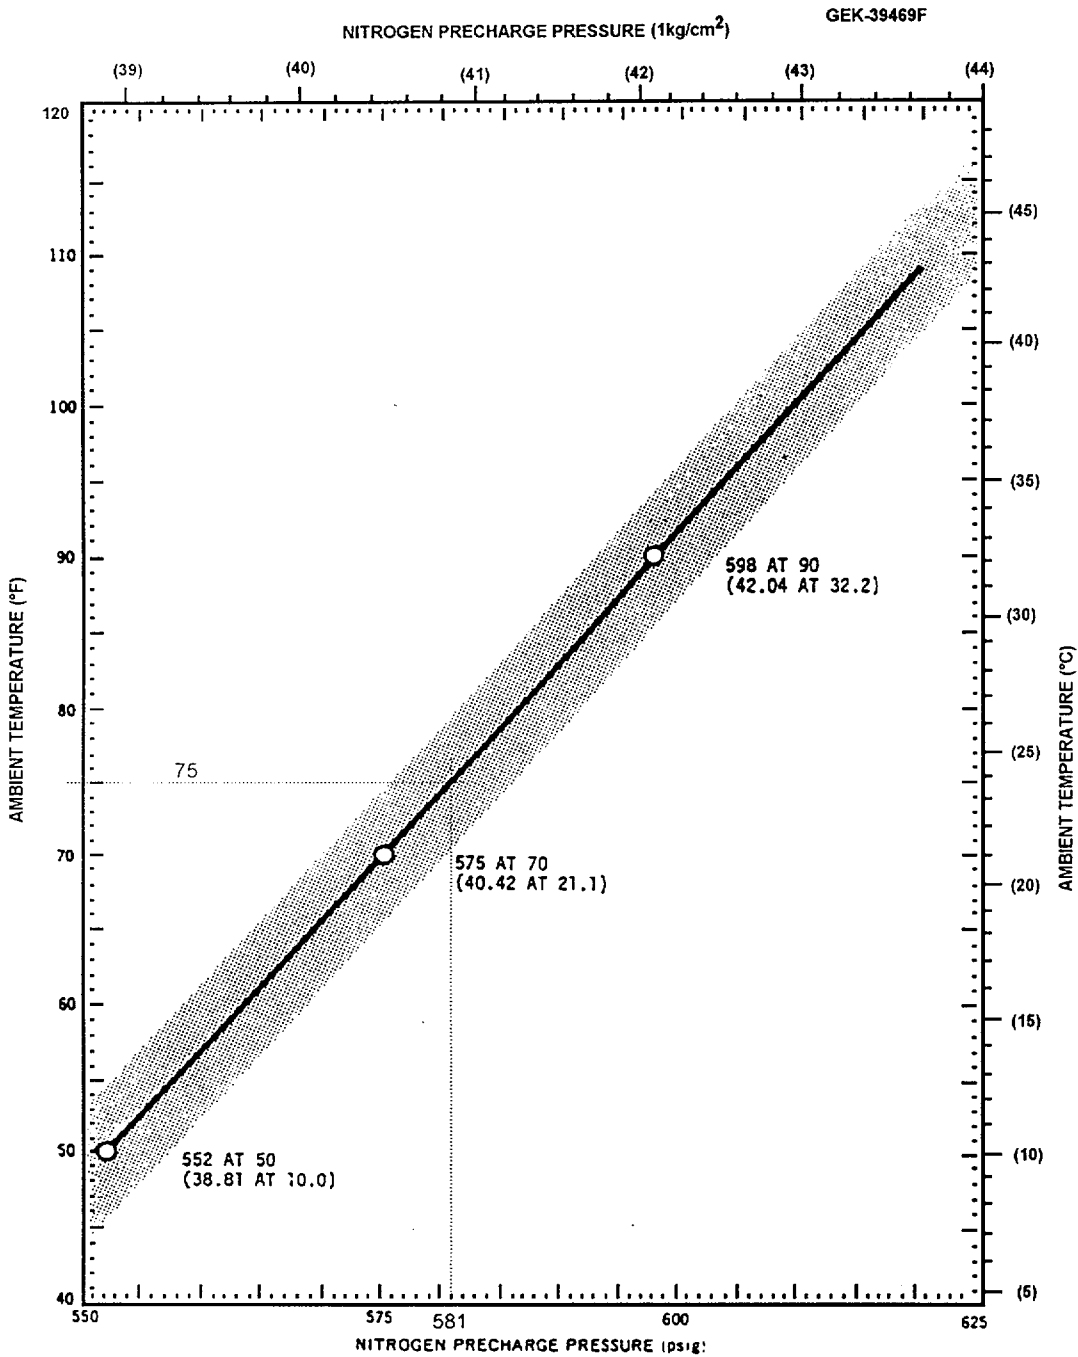

Figure 3-2. Accumulator Precharge Nitrogen Pressure Versus Ambient Temperature
**ANSWER:** Reference HC.OP-SO.BF-0002(Q), Figure 3-2